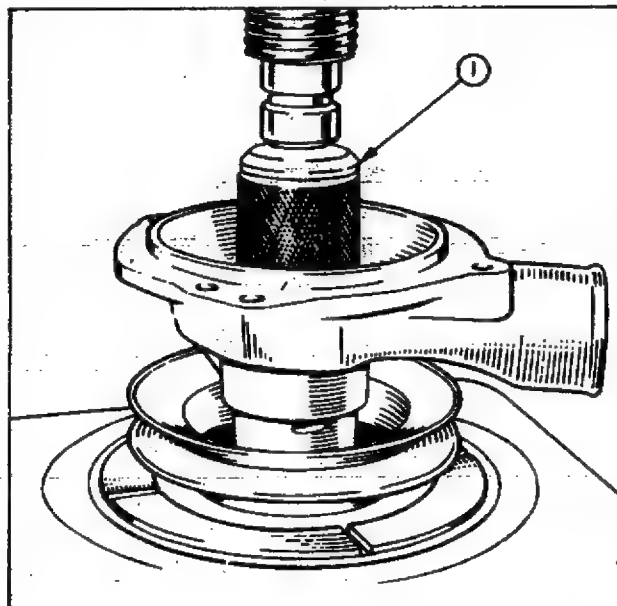

Fig. 11.
5. Refit the pump seal on the slinger bush with the carbon thrust face towards the impeller, using adaptor CPT.8000-3 detail "k" (see Fig. 11).